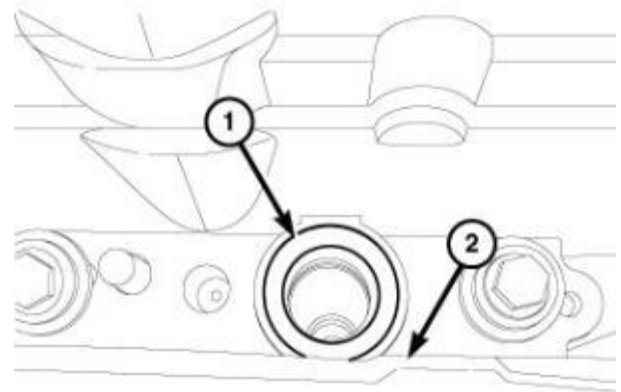

Figure 48 – Fuel Injector Seal
52. Install a **NEW** fuel injector seal (1) in the cylinder head cover (2) (Figure 48).